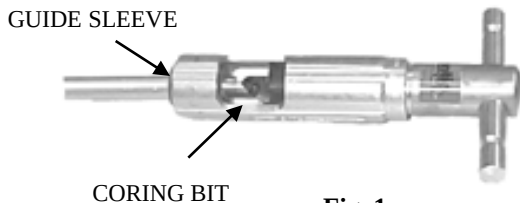

Fig. 1
Step 1. (Fig. 1) Insert the tool onto the cable through the guide sleeve until the coring bit makes contact with the cable.